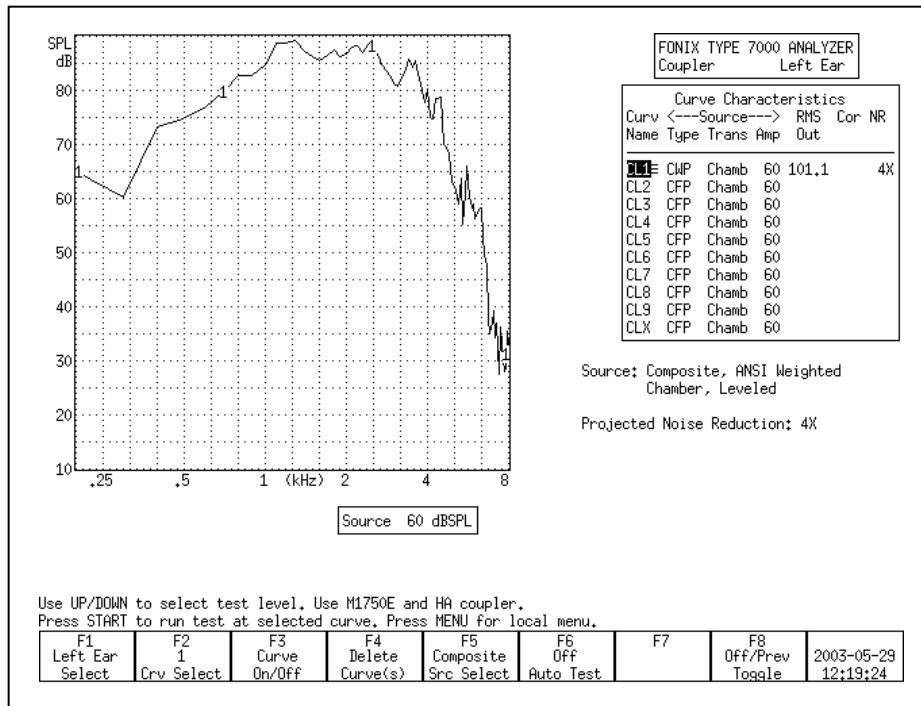

Figure 2.3.2.2—Example of IM distortion
The composite signals are helpful for identifying intermodulation distortion (IM). IM distortion occurs when amplitudes at more than one frequency in a signal combine to create an amplitude at a frequency not present in the original signal. When viewing a graph run with a composite signal, look for points along the graph where the line “breaks up.” Such an appearance indicates the presence of IM distortion. See Figure 2.3.2.2 for an example of IM distortion.